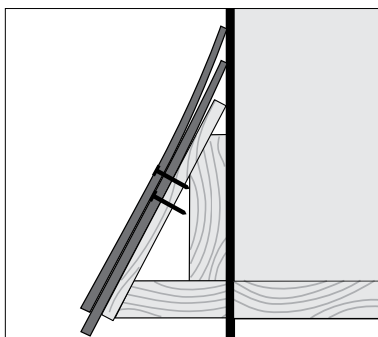

Figure 1
- The starter course has two layers of shingles (See Figure 1). Use full shingle lengths (12") for the first layer. The starter offset line at the top of the panel can be used as a guide in aligning the second layer so it extends 1/2" below the first layer.